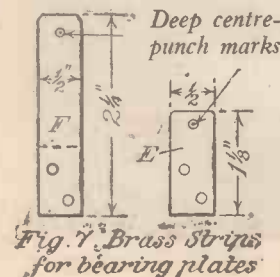

Fig. 7. Brass Strips for bearing plates
long (E), and drill two holes in the lower part for fixing screws. Near the top edge make a deep centre-punch mark, as shown in Fig. 7. Make a similar centre-punch mark near the top end of the other strip (F), and, after drilling the two holes in the lower part, bend the strip at a right-angle on the dotted line so that the centre-punch mark is on the opposite side of the strip to the bent foot.